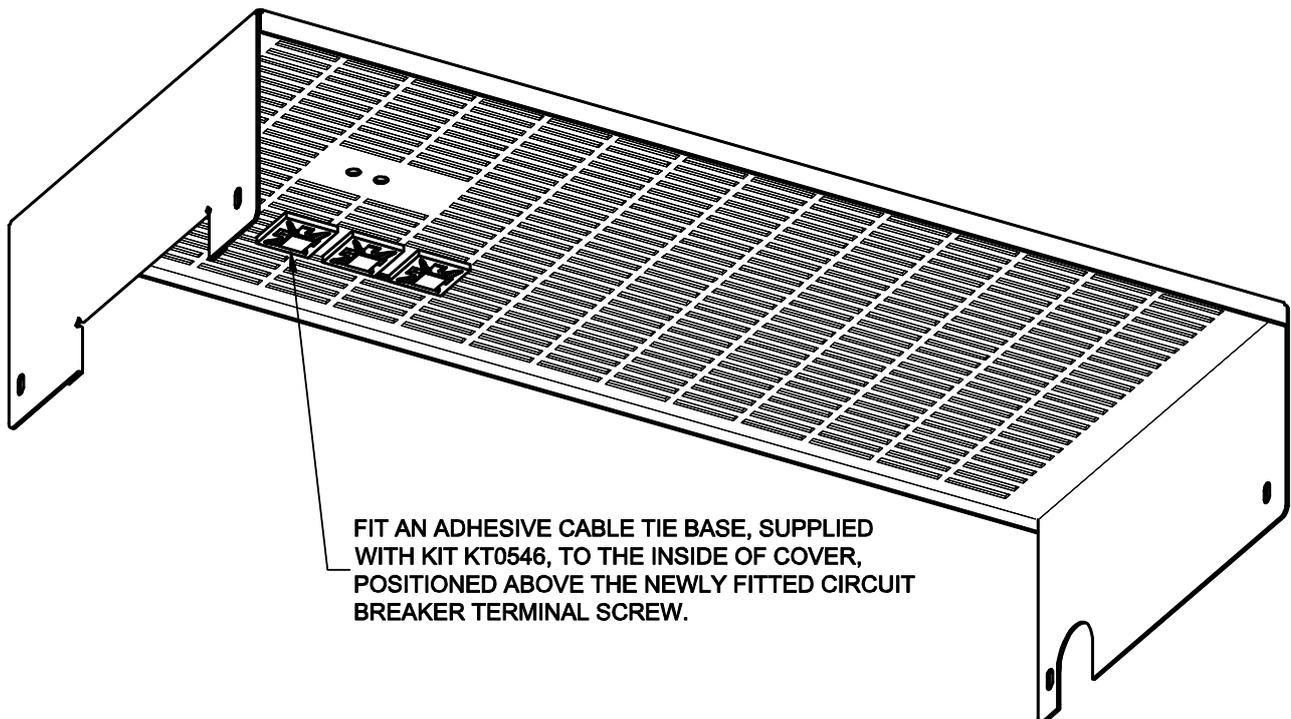

Figure 5 – Positioning of adhesive cable tie base to prevent short circuits
8. **IMPORTANT!** Stick an adhesive cable tie base to the inside of the PSU cover as shown in Figure 5 below (to prevent any possibility of a short with the cover).